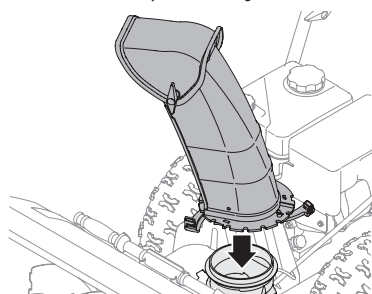

Figure 9
1. Position chute assembly over base (Figure 9).